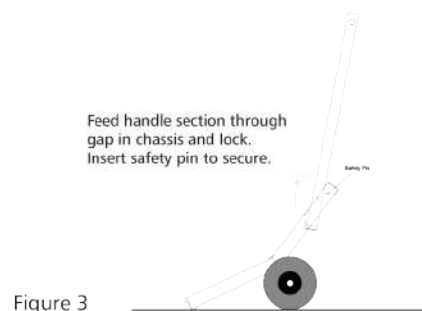

Figure 3
3. The locating pin in the lower section should now be removed and the handle section guided through the gap in the lower section and locked into position by replacing the locating pin (Figure 3)